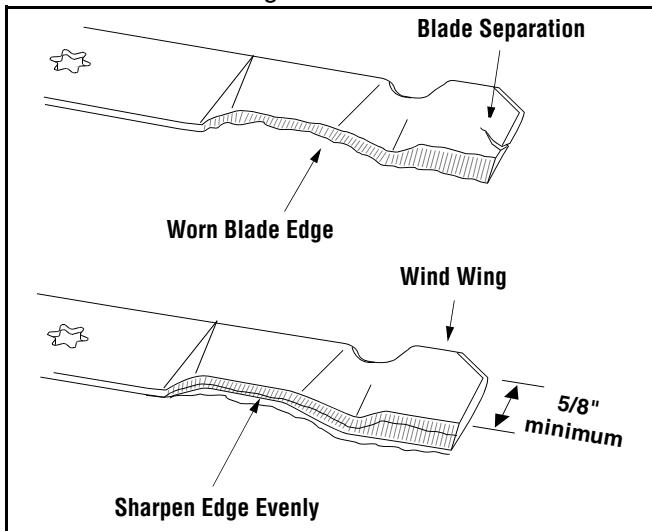

Figure 20
- To properly sharpen the cutting blades, remove equal amounts of metal from both ends of the blades along the cutting edges, parallel to the trailing edge, at a 25° to 30° angle. See Figure 20.
IMPORTANT: If the cutting edge of the blade has already been sharpened to within 5/8" of the wind wing radius, or if any metal separation is present, replace the blades with new ones. See Figure 20.